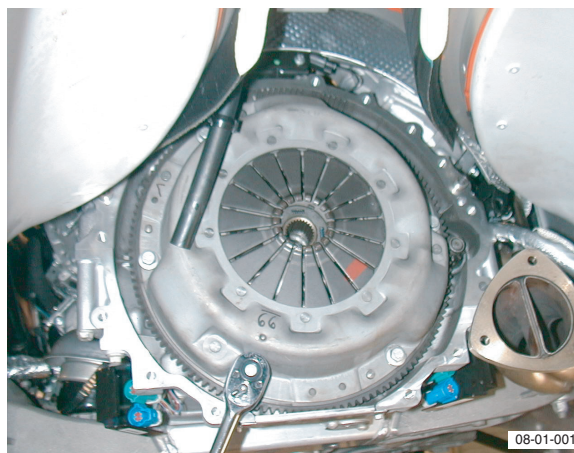

Fig. 2
6. Remove bolts (x6) from clutch cover to flywheel (see Fig. 2).